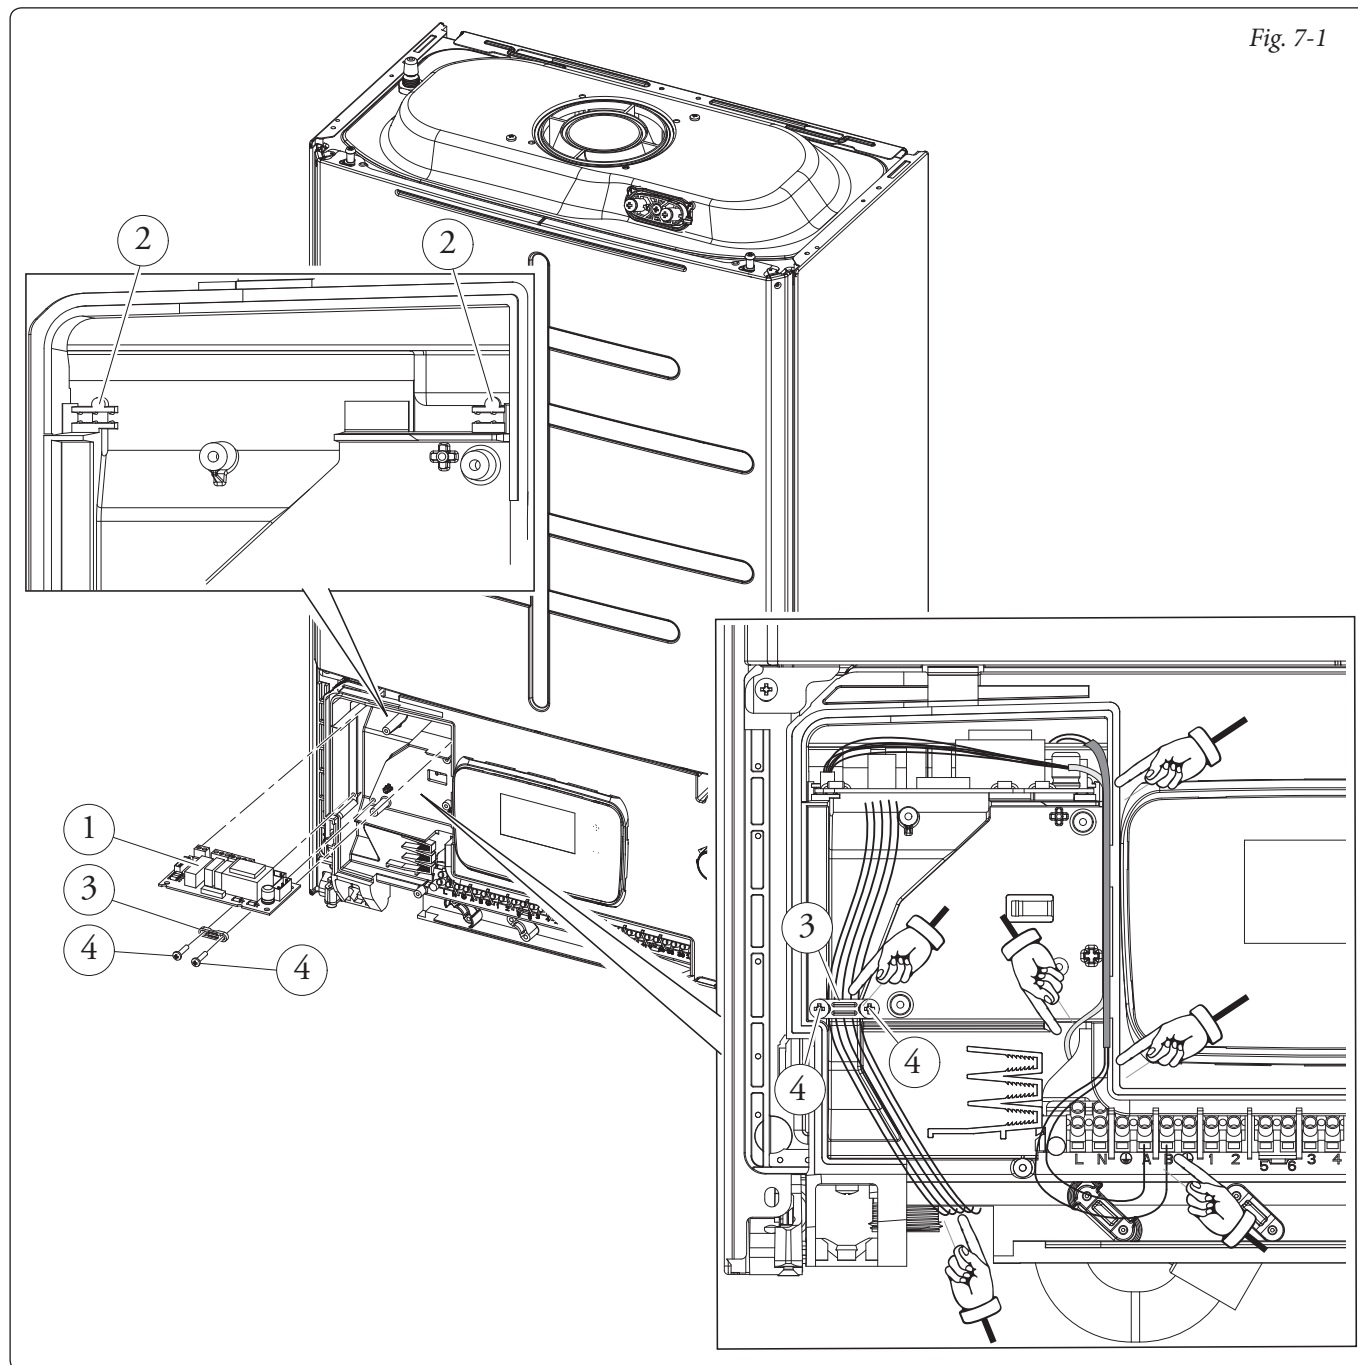

Fig. 7-1
- Disassemble the boiler casing and open the control panel compartment to install the relay board (1) (see instruction booklet relative to the boiler model).
- Make the electric connections between the relay board (1) and the boiler P.C.B., placed on the control panel rear, using the relative wiring.
- The connection cables must respect the prescribed route indicated (fig. 7-1) and blocked by means of the cable gland (3) fixed with the screws (4).
- Mount the board (1) inserting it as far as it will go and fitting it into the two special hooks (2) (see figure 7-1).